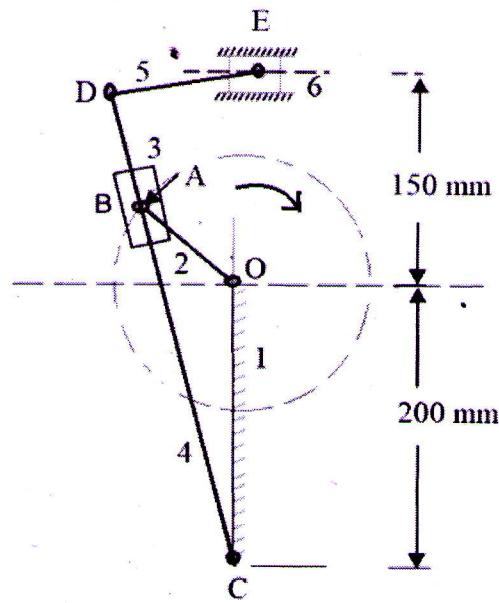

Fig. 3
- 13 For the shaper mechanism shown in Fig. 3, the crank OA (link 2) is 75 mm, slotted lever CD is 355 mm and the link DE is 100 mm. The crank rotates at 200 rpm in clockwise direction. When crank makes an angle 30° with horizontal, determine